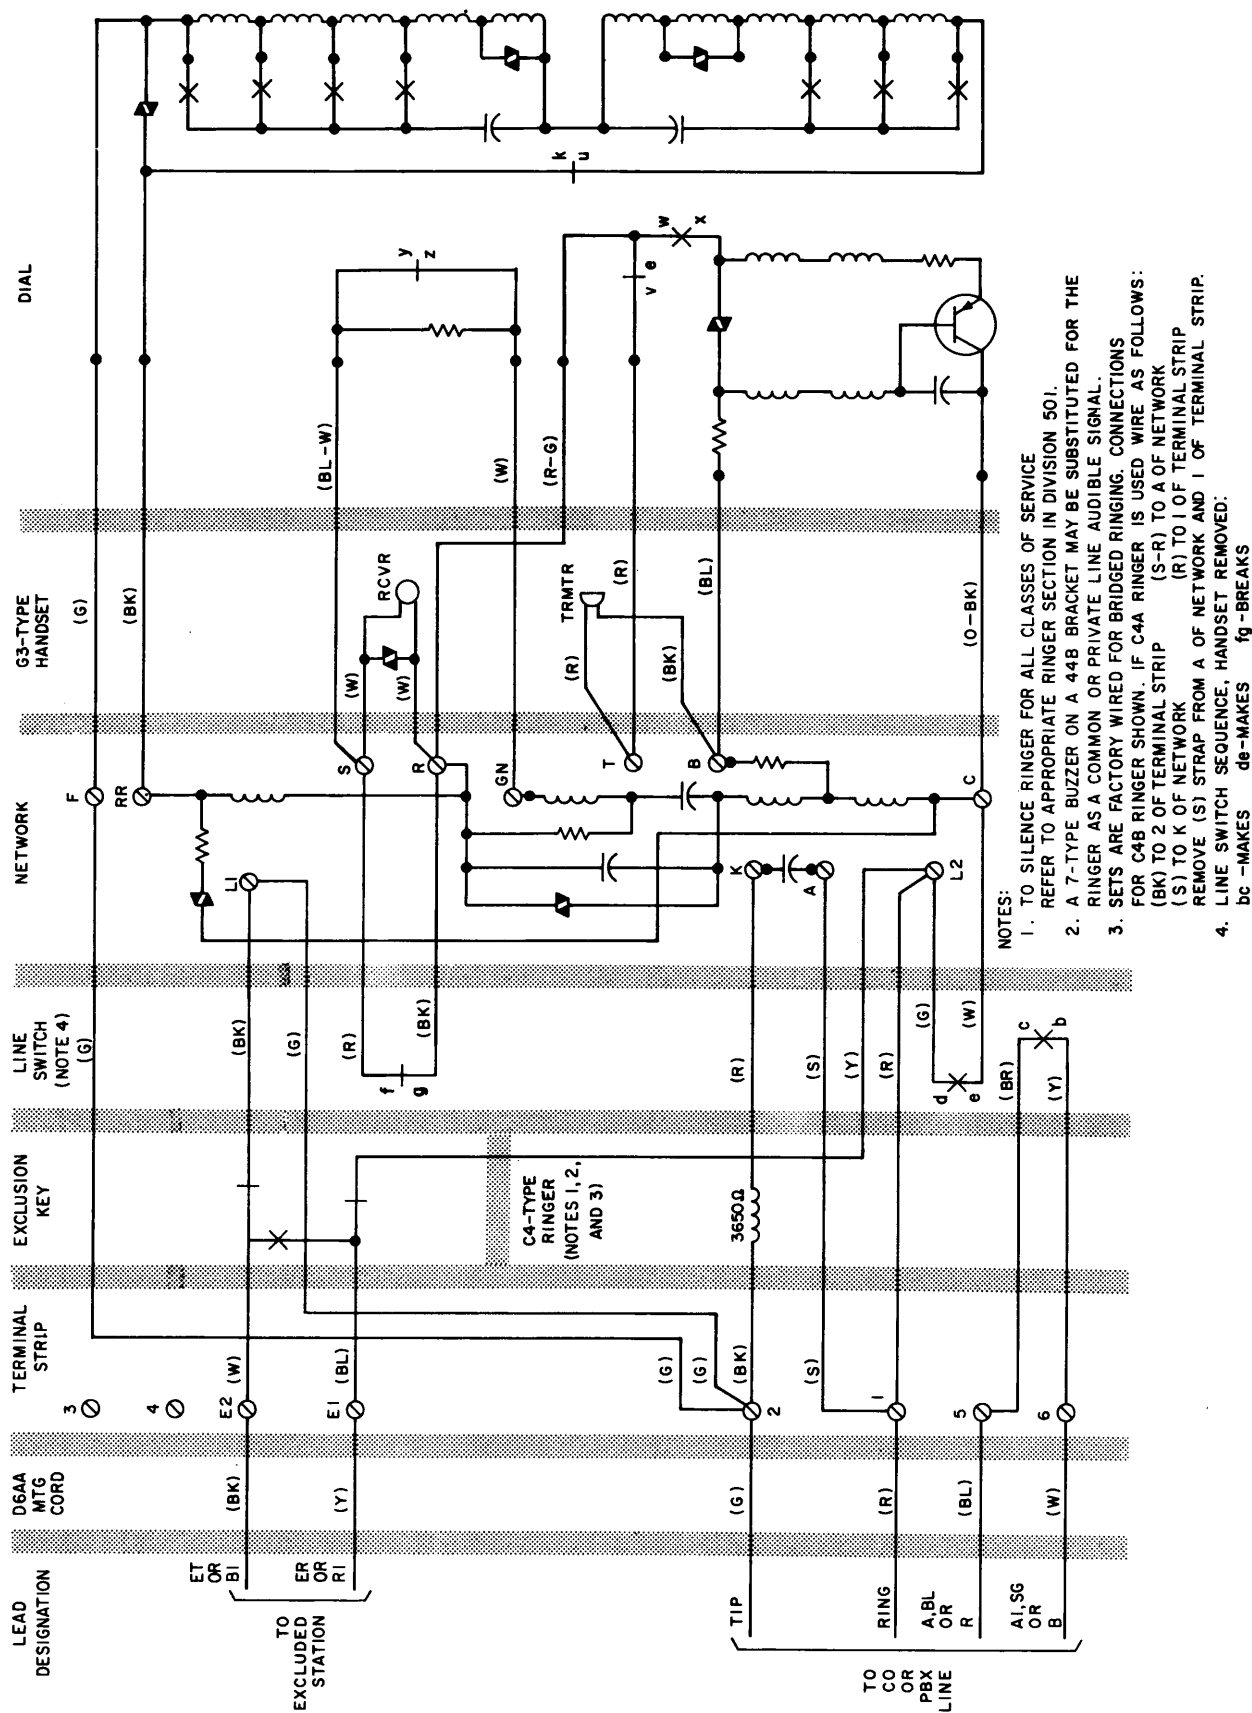

Fig. 2—2502B (MD) Telephone Set, Connections
6.01 These telephone sets are factory-wired as shown in Fig. 2 through 14.